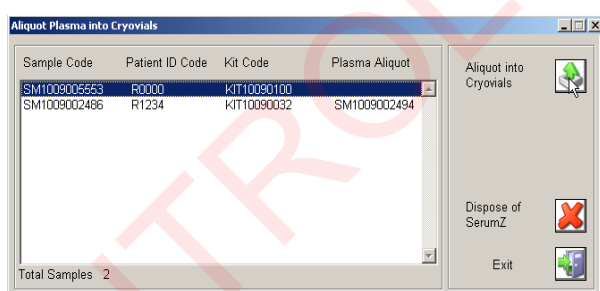

Figure 6 – 'Aliquot serum into cryovials' screen
6. Return to LIMS, Select the '**Split into Cryo-tubes**' icon . Select the '**Aliquot into Cryovials**'  icon in the '**Aliquot serum into cryovials**' screen (Figure 6).